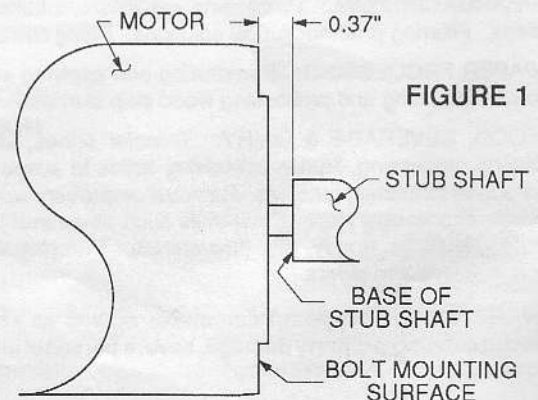

FIGURE 1
- Liberal apply Loctite RC/680 retaining compound to the motor shaft and slide the stub shaft on, positioning the base of the stub shaft 0.37" from the bolt mounting surface of motor. For clarification refer to Figure 1 below. Loctite aids in preventing fretting and subsequent shaft failure. Apply Loctite to the four set screws and torque to 85-90 in. lbs. Wipe off excess Loctite.